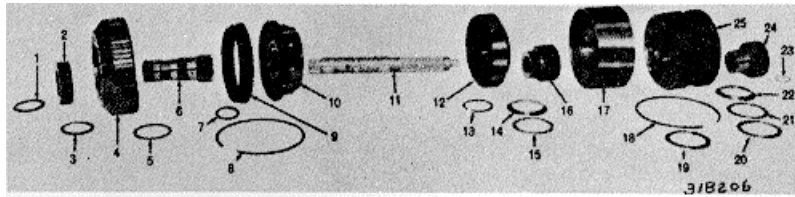

Fig. 6-66. Components of gear unit and main shaft assembly (HT750CRD)
(1) Remove thrust washer 1 (fig.6-66) from sun gear 2. Remove sun gear 2 and thrust washer 3.
(2) Remove front planetary carrier assembly 4, and thrust washer 5. Refer to paragraph 6-30 for rebuild of the carrier assembly.
(1) If the bushings were unserviceable or removed from sun gear and shaft assembly 6 (Fig. 6-66), replace the entire shaft assembly.
(3) Position planetary connecting drum 17 (Fig. 6-66), front (longer internal splines) downward. Install rear planetary carrier assembly 25, larger carrier bore first, into drum 17. Retain the carrier with snapring 18.
(4) Install bearing race 14, flat side first, onto the rear of center planetary ring gear 12. Retain it with oil-soluble grease. Install needle roller bearing 15 onto race 14. Retain it with oil-soluble grease.
(5) Install thick, flat bearing race 19 onto bearing 15. Retain it with oil-soluble grease.
(6) Install rear planetary sun gear 16 into the rear of center planetary ring gear 12. Retain it with snapring 13.
(7) Install main shaft 11, smaller end first, through the parts (12, 13, 14, 15, 16, 19) assembled above. Install shaft 11 and its assembled parts into drum 17 until bearing race 19 seats in the front counterbore of rear planetary carrier assembly 25.
(8) Install bearing race 22, flat side first, onto the rear hub of rear planetary carrier assembly 25. Retain it with oil-soluble grease. Install bearing 21, and thick,